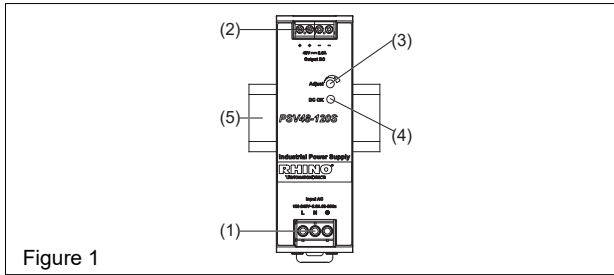
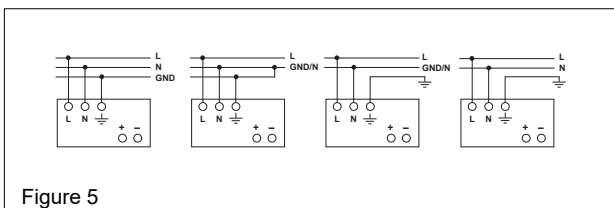

Figure 1
Figure 5
## 2. Device description (Fig. 1)
### 5.1. Input connection (Fig. 1, Fig. 5)
Use L, N and GND connections of input terminal connector (see Fig. 1 (1)) to establish the 100-240 VAC connection. Typical connection methods are shown in Figure 5.
### 5.2. Output connection (Fig. 1 (2))
Use the "+" and "-" screw connections to establish the 48 VDC connection. The output provides 48 VDC. The output voltage can be adjusted from 44 to 56 VDC on the potentiometer. The green LED DC OK displays correct function of the output (Fig. 1 (4)). The device has a short circuit and overload protection and an overvoltage protection limited to 56-67.2 VDC.